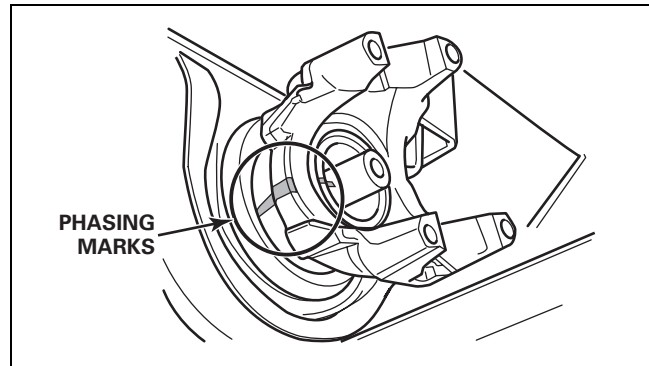

Figure 9.6
2. Mark the end yoke counterbore to the coupling shaft "nose." This will help you to reassemble the center bearing end yoke in its original phased position. Figure 9.6.
5. Use a rubber hammer to tap the yoke onto the coupling shaft splines. The phasing marks on the driveline must be aligned. Figure 9.6. Continue to tap the yoke until it is completely seated against the center bearing. Do not use the nut to draw the yoke down.